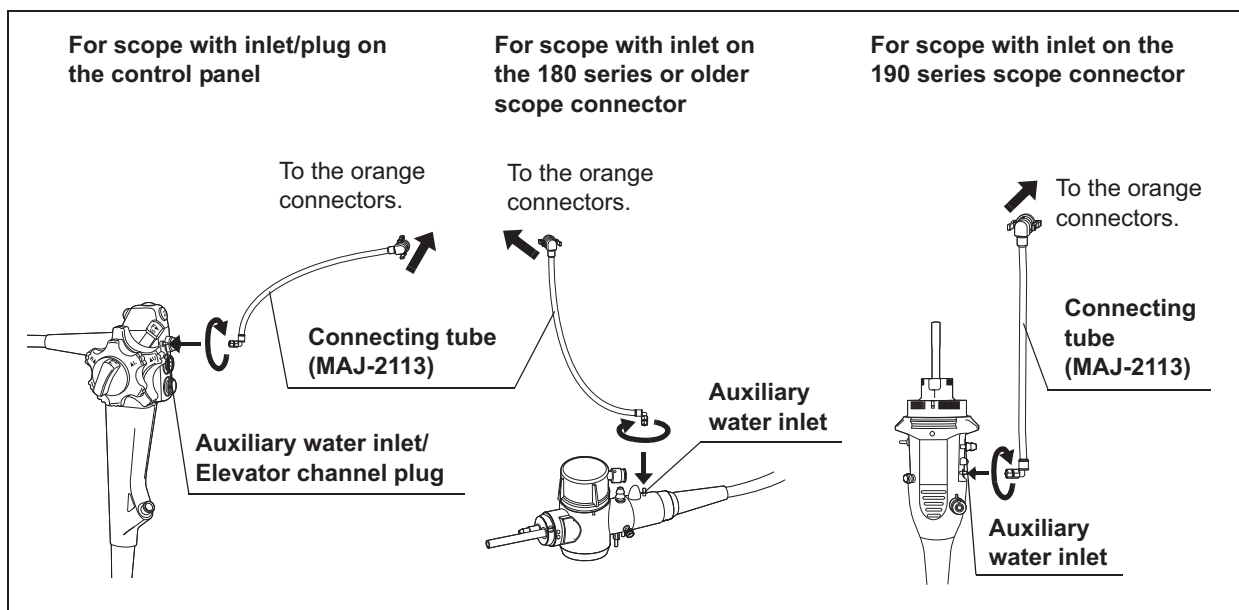

Figure 6.19
- 7 Insert the MAJ-2113 connecting tube into the endoscope side connector straight into the endoscope's auxiliary water inlet/elevator channel plug, and turn the outer ring clockwise to connect firmly. Refer to Figure 6.19 for the three options for mounting the MAJ-2113.